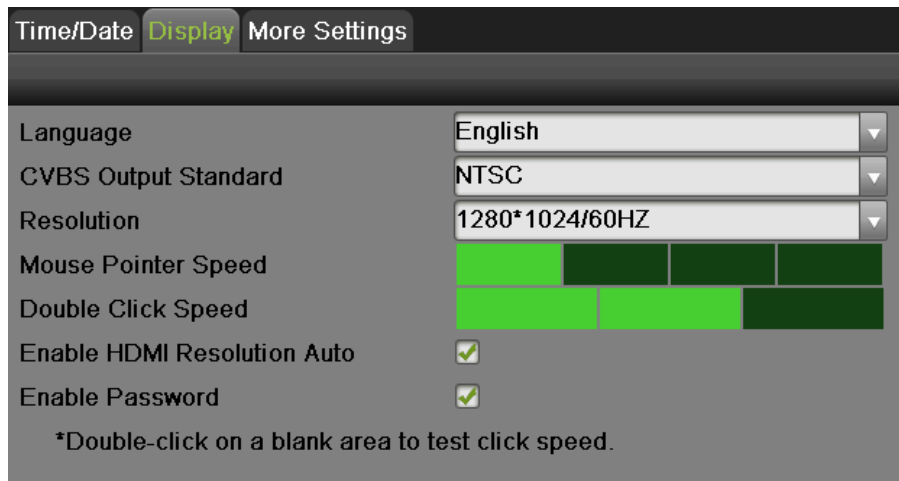

Figure 38 Display Menu
1. Set language, CVBS output standard, resolution and so on by going to Menu > System Configuration > General > Display, as shown in Figure 38.